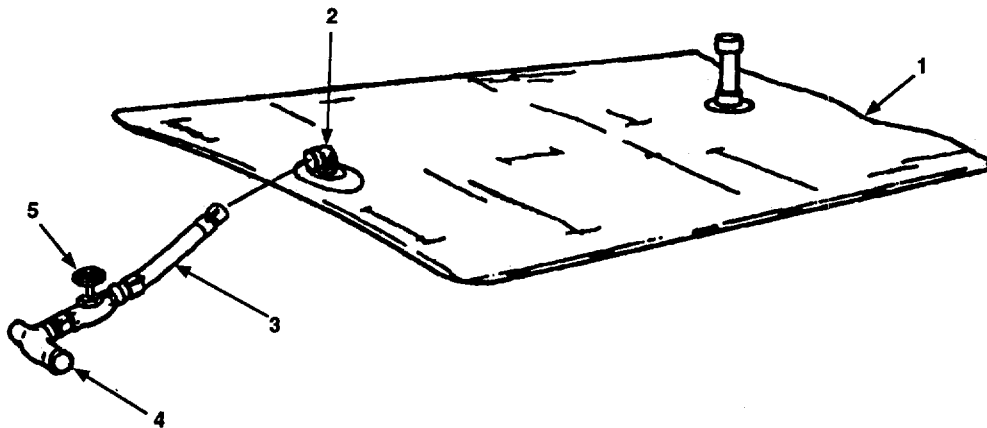

Figure 2-22. Final Assembly of Storage Assembly.
- n. Connect 4 inch x 10 foot hose assembly (Figure 2-22, 3) to female-to-female elbow (2) on 20,000 gallon pillow tank (1). Close cam arms.
- o. Connect additional 4 inch X 10 foot hose assemblies (3) as necessary to reach reducing tee/gate valve assembly.